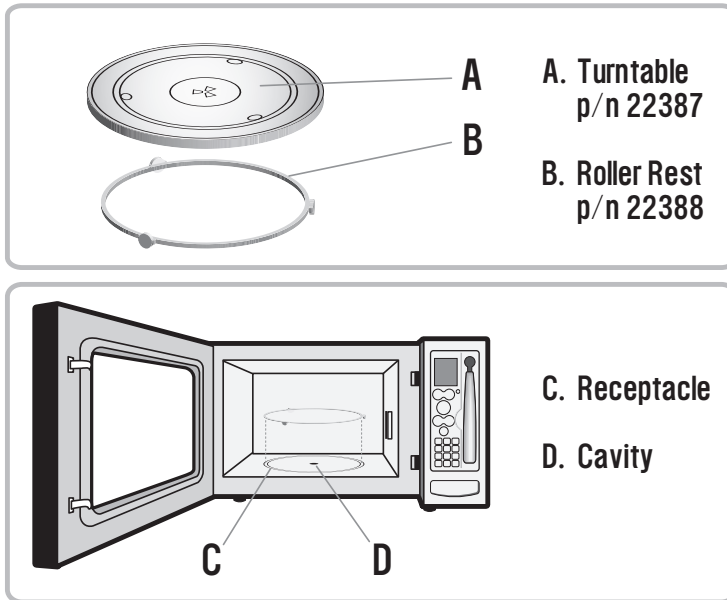

Figure 1. Turntable installation
3. Verify that you have all the items for turntable assembly, see Figure 1. Be sure all items are in good condition. Check the oven for any damage, such as a misaligned or bent door, damaged door seals and sealing surfaces, broken or loose door hinges and latches, or dents on the door or interior walls.
The turntable must be installed before using the Westinghouse Microwave Oven. Refer to Figure 1. for turntable installation.